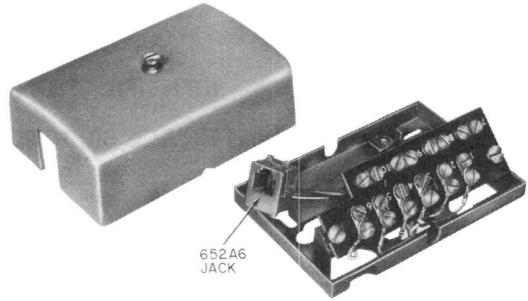

Fig. 1—74D (MD) Connecting Block
1.04 A 74D \blacklozenge manufacture discontinued (MD) \blacklozenge (Fig. 1) or 625S6 (Fig. 2) \blacklozenge connecting block or equivalent can be used to provide the 6-position modular jack required for this arrangement. \blacklozenge Where connector cable is in place, the 153AM3 and BM3 (Fig. 5) may be used. \blacklozenge